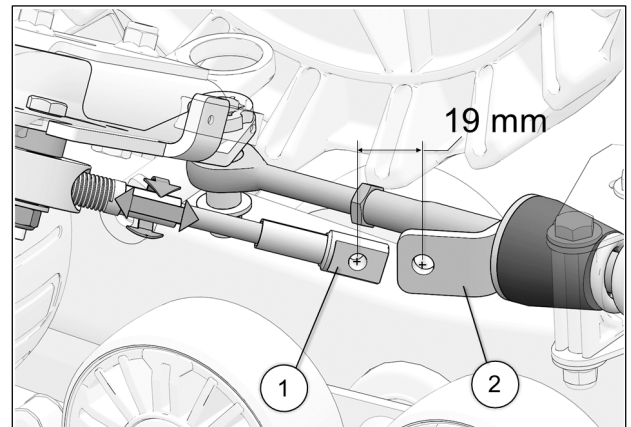

Fig. 27
15. Turn the vehicle's steering wheel to its maximum point of travel on the left. While maintaining pressure on the steering wheel, turn threaded rod to adjust length of cable. See Fig. 27
16. Position cable end hole (1) 19 mm [ $\frac{3}{4}$  in.] short of support plate (2) mounting hole. See Fig. 27